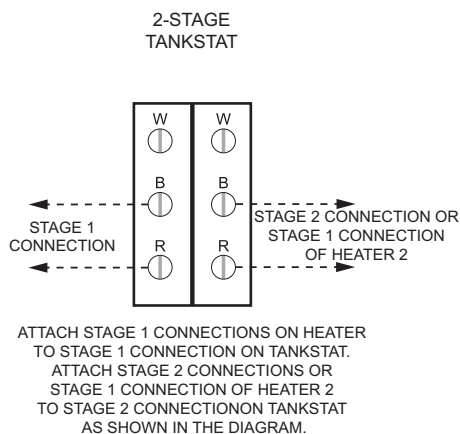

Fig. 25: 2-Stage Tankstat
2. For 2-stage controller connections, connect each stage of the control to the corresponding stage of the CPW board in the heater, i.e., stage 1 of the heater to stage 1 of the control; stage 2 of the heater to stage 2 of the control, as shown in Fig. 22 and Fig. 25. Set the operating control to the set-point at which you want the heater to maintain. Ensure that the sensing bulb of the control is at the point in the system that will best maintain the temperature you want. For example, when you are heating a tank of water, you want the operating control sensor bulb in the tank.